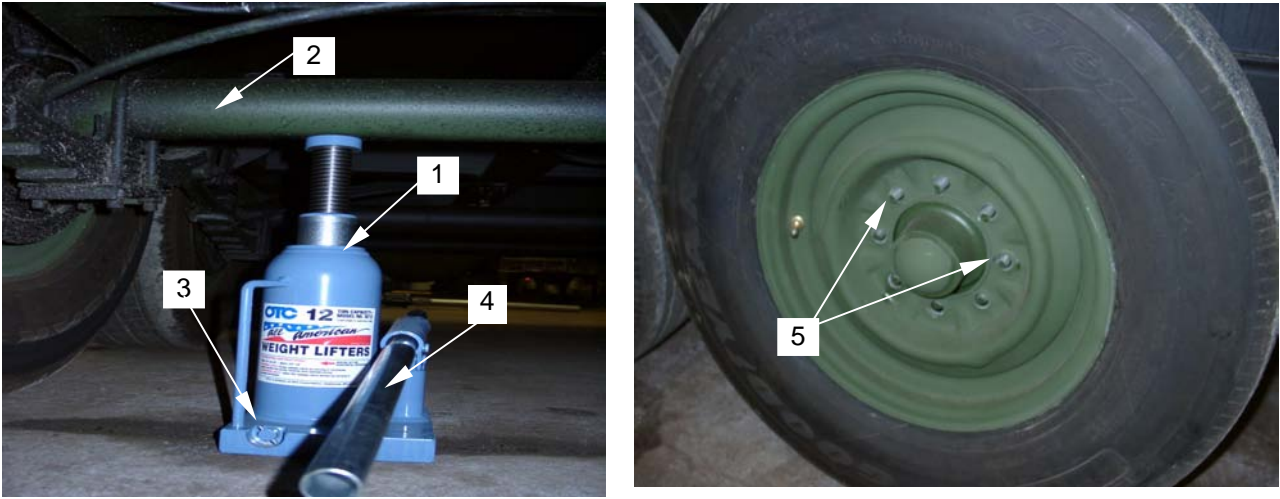

Figure 25. Lifting the Axle and Removing the Rim and Tire
- d. Place the bottle jack (**figure 25, item 1**) (stored in WWET/T toolbox) under the axle (**figure 25, item 2**) to be raised on a hard surface.
- f. To raise the jack, close the release valve (**figure 25, item 3**) by turning it clockwise, insert handle (**figure 25, item 4**) into the pump receiver and operate the jack.
- i. Remove the rim and tire from the studs (**figure 25, item 5**). (2 person operation)